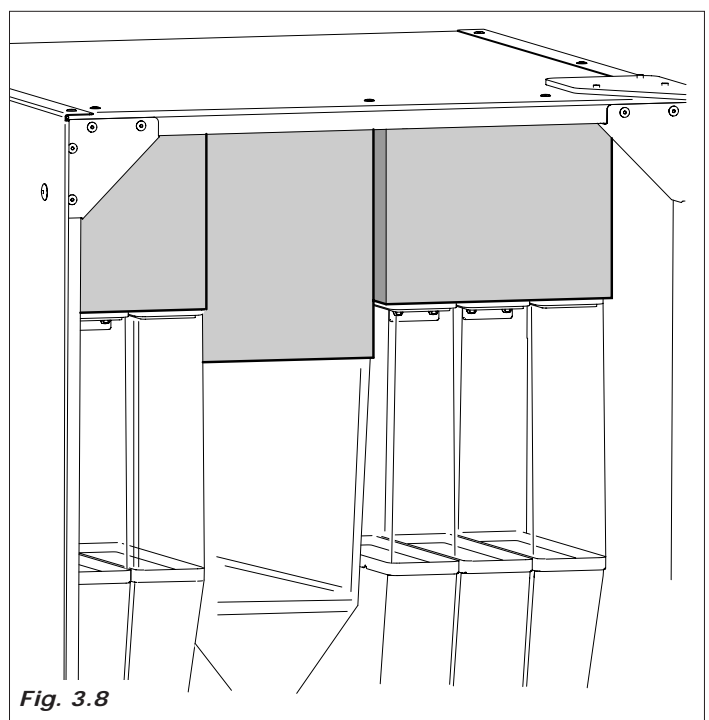

Fig. 3.8
- remove the polystyrene that that blocks the product containers (Fig.3.8)